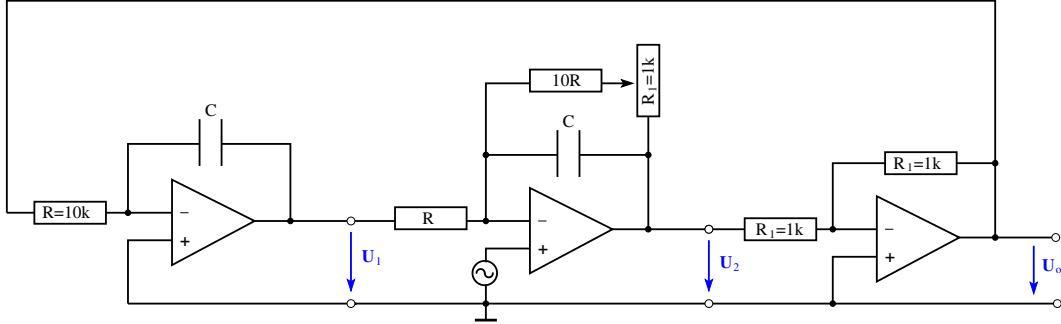

Figure 8: Circuit of an Generator for varying amplitudes
- Which DGL describes the voltage curve at the output of the oscillation generator in Fig. 8 at the point  $U_a$ ?
Set up the circuit of a generator with varying amplitude shown in Figure 8. A good choice